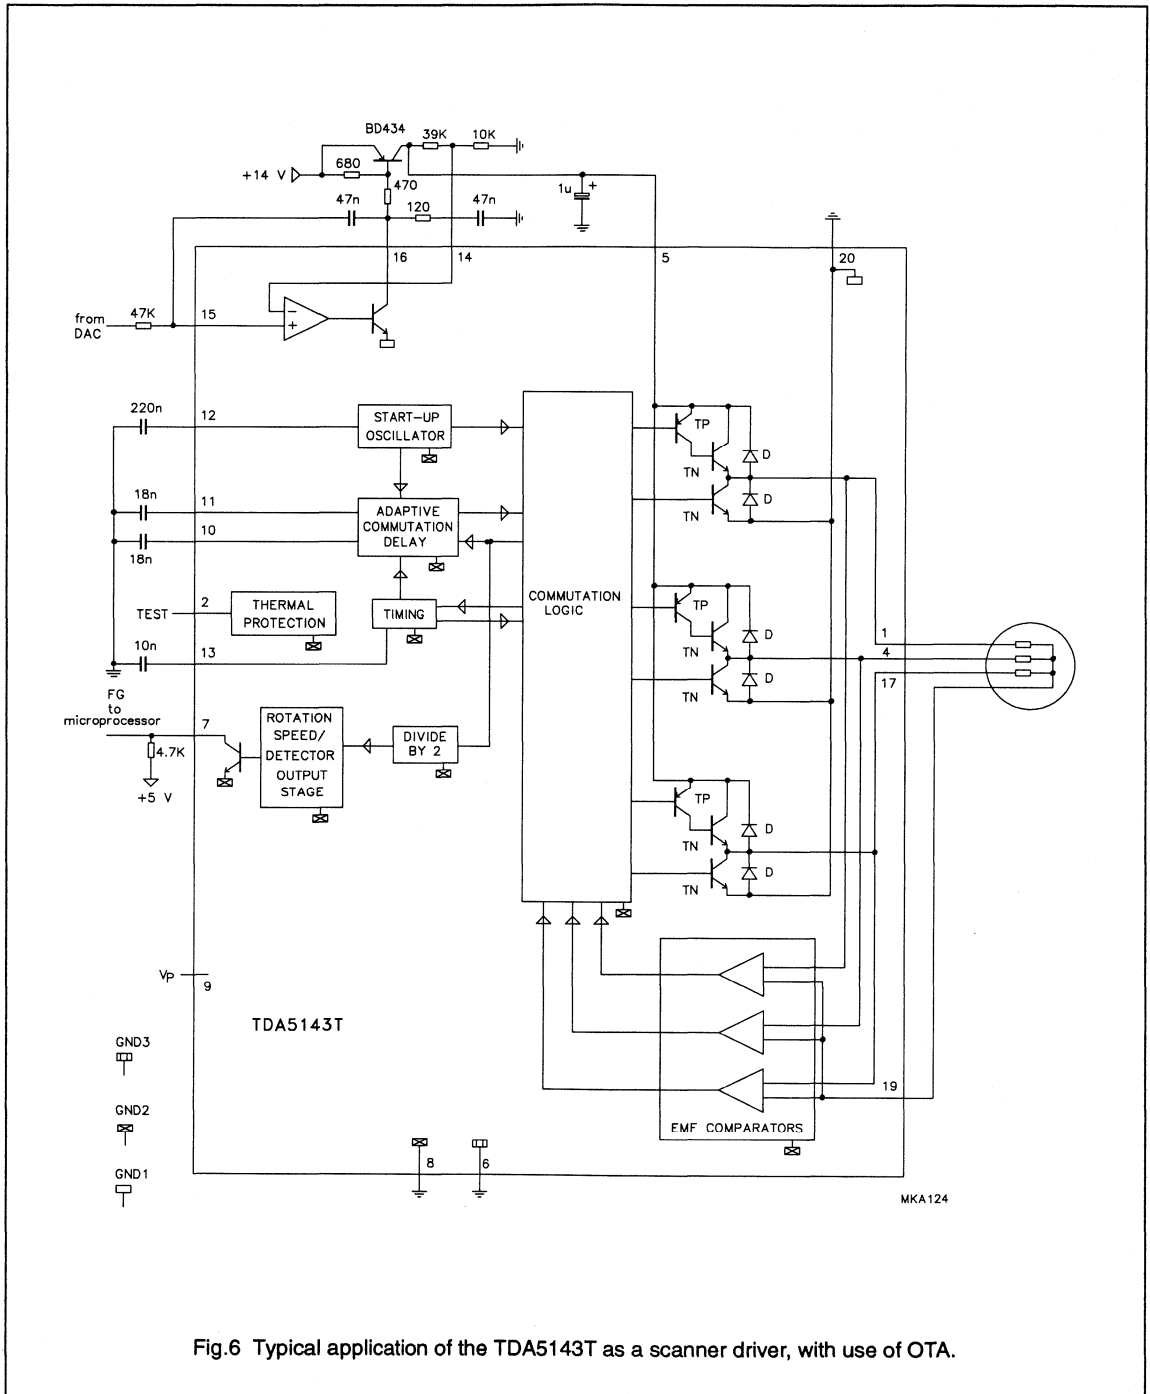

Fig.6 Typical application of the TDA5143T as a scanner driver, with use of OTA.
Introduction (see Fig.6)
- With analog control an external control transistor is required. The OTA can supply the base current for this transistor and act as a control amplifier (see Fig.6).
An alternative method of voltage control is to increase the output impedance for a certain frequency, such as the commutation frequency; the circuit illustrated by Fig.6 uses this method. The low output impedance increases to approximately 10Ω at 900 Hz. This circuit diagram is an example of the application of the TDA5143 with a VTR scanner for a PAL recorder running at 1500 rpm. The input signal is a PWM 5 V signal. The FG signal is read by a microprocessor that runs the servo control program.